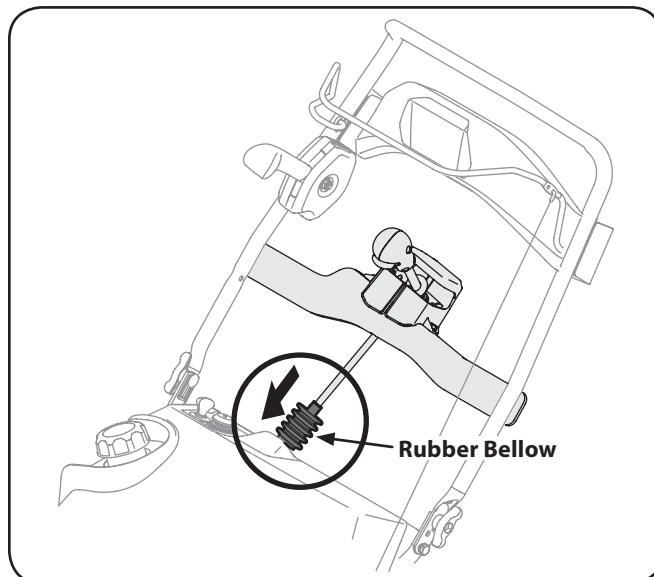

Figure 3-9
6. Slide the rubber bellow over the universal joint. See Fig. 3-9.